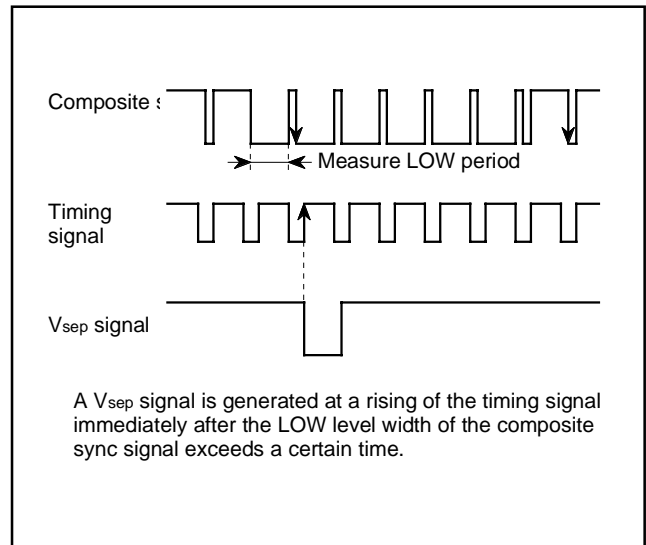

Fig. 8.10.6 V_{sep} Generating Timing (method 2)
- Method 2 The LOW level width of the composite sync signal is measured. If this width exceeds a certain time, it is detected whether a falling of the composite sync signal exits or not in the LOW level period of the timing signal immediately after this LOW level. If a falling exists, a V_{sep} signal is generated in synchronization with the rising of the timing signal (refer to Figure 8.10.6).
Figure 8.10.6 shows a V_{sep} generating timing. The timing signal shown in the figure is generated from the reference clock which the timing generating circuit outputs.